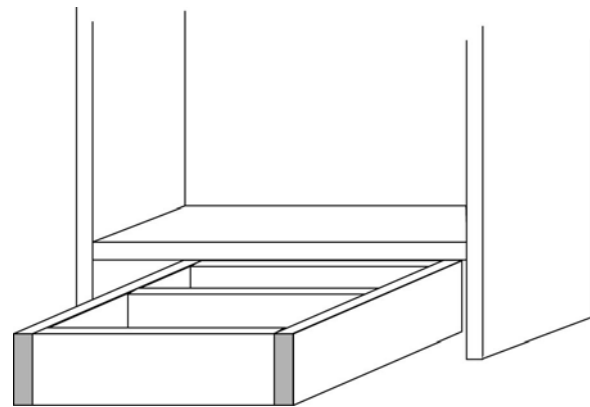

Fig. 13
3. Set the assembled "ladder" at the bottom of the section extending into the corner wall. (Complete this step BEFORE fastening in your bottom fixed cam shelf in this section.) (See Fig. 13.)